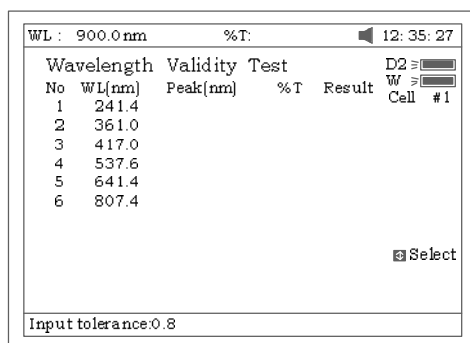

Fig 98
3. Press **[F3]** to set tolerance (Fig 98). Input the value by pressing the numeric keypad.